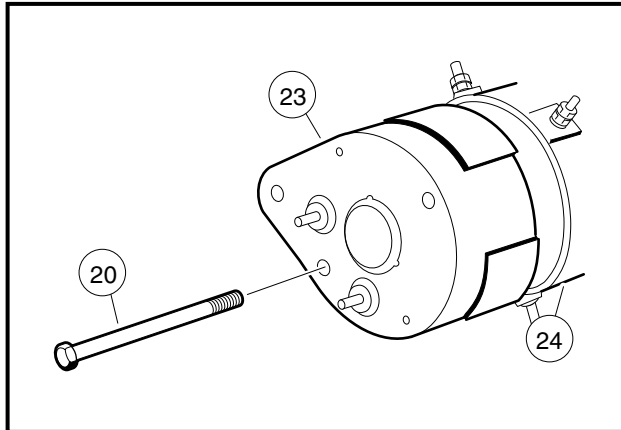

Figure 12-3 Commutator End Cover
1. Remove the two bolts (20) and pull commutator end cover (23) free of starter/generator housing (24) (**Figure 12-3, Page 12-4**). See following **NOTE**.
3. Install the commutator end cover (23) onto the armature shaft. Align the locating pin with the pin hole in the cover. Install two M6 x 180 mm bolts (20) and tighten to 100 in-lb (11.3 N·m) (**Figure 12-3, Page 12-4**).
2. Remove the two bolts (20), and pull commutator end cover (23) free of the starter/generator housing (24) (**Figure 12-3, Page 12-4**).
9. Install the commutator end cover (23) onto the armature shaft. Align the locating pin with the pin hole in the cover. Install the two M6 x 180 mm bolts (20) and tighten to 100 in-lb (11.3 N·m) (**Figure 12-3, Page 12-4**).